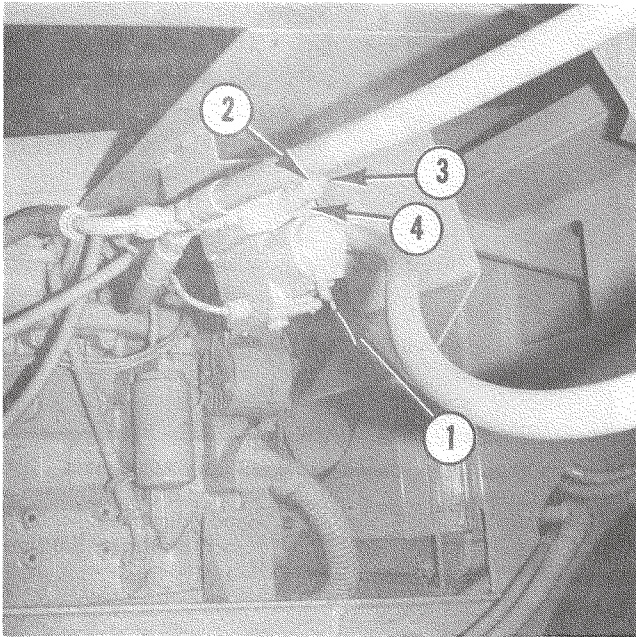

Figure 24. Spread Roll Relief Valve
1. Hopper Spread Roll Relief Valve (Figure 24)
d) Use the manual override to actuate the valve. (Fig. 24, Ref. 1)